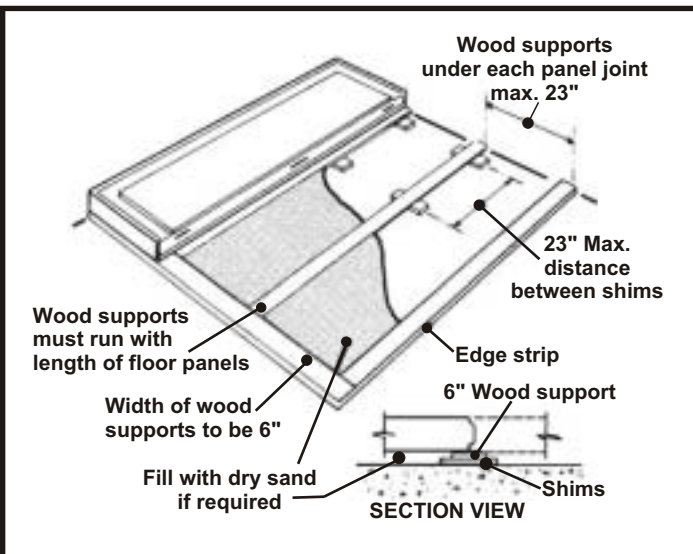

Fig. 9
- B. If the Shelter floor must bear heavy loads, the entire underside of each floor panel must be supported. If this is necessary, refer to fig. 9, which shows an optional method for leveling the floor and providing a sand-filled base.